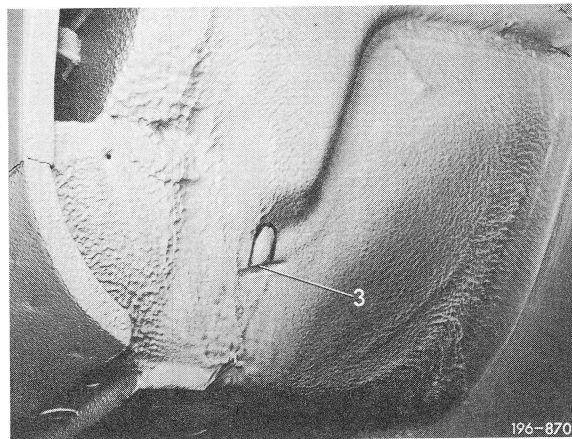

Fig. 2
- 6 Check outlet holes (3) on front wall and front wall stiffening and clean (Fig. 2).